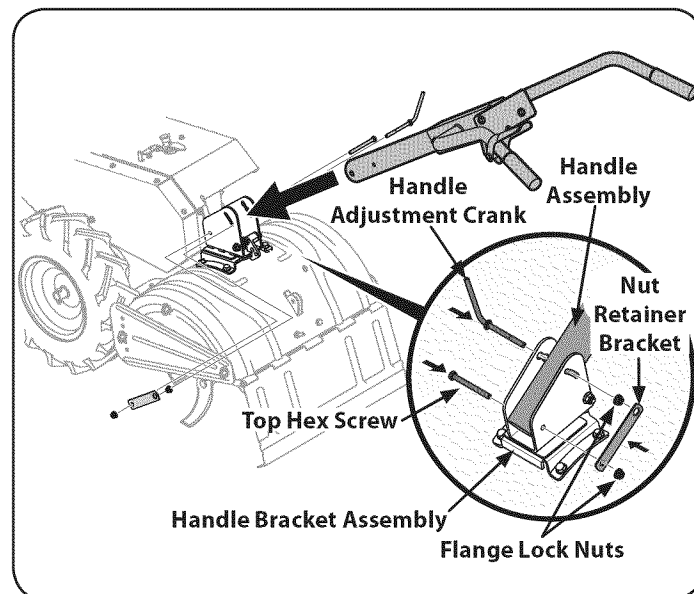

Figure 3
1. Remove the top hex screw, handle adjustment crank, flange lock nuts and nut retainer bracket from the handle mounting brackets, but do not remove the bottom hex screw and flange lock nut. See Figure 3.